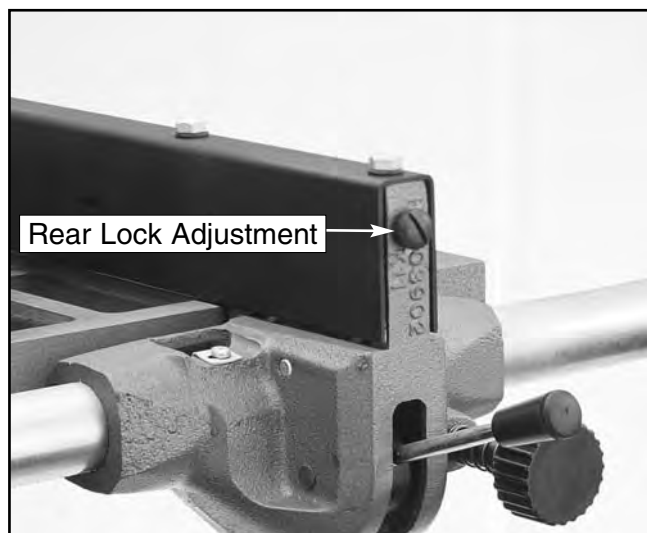

Figure 33. Rear lock adjustment screw.
3. Loosen the rear lock adjustment, the slotted screw on the front of the fence shown in **Figure 33**, until the rear locking lever ceases to engage the rear rail with the fence in the locked position.